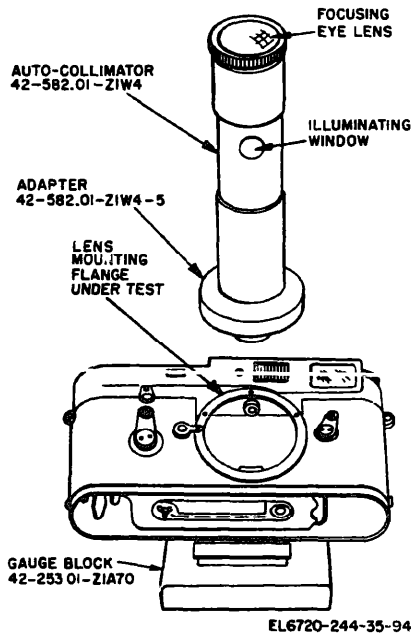

Figure 6-12. Arrangement of equipment for parallelism check.
(4) Position the dial gage, with feeler tip, on the surface of the lens mounting flange (fig. 6-12) and measure the distance to the mirror surface of the gauge block. The dial gage should indicate 0.000, + 0.005, - 0.010 mm. (When the dial gage is calibrated, a reading of zero is equivalent to 27.95 mm).